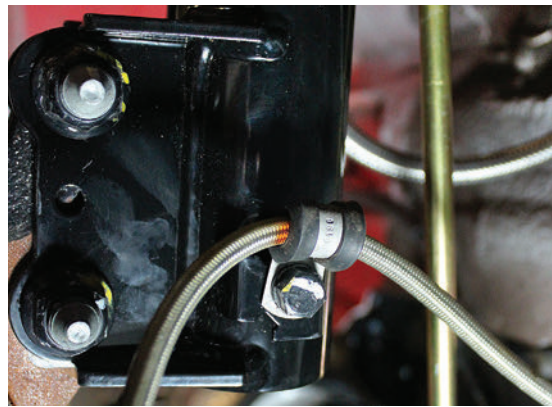

fig. D.14
5. Reinstall the brake line bracket. Torque the bolt to 12Nm (9 lb.-ft.) (Fig. D.14).